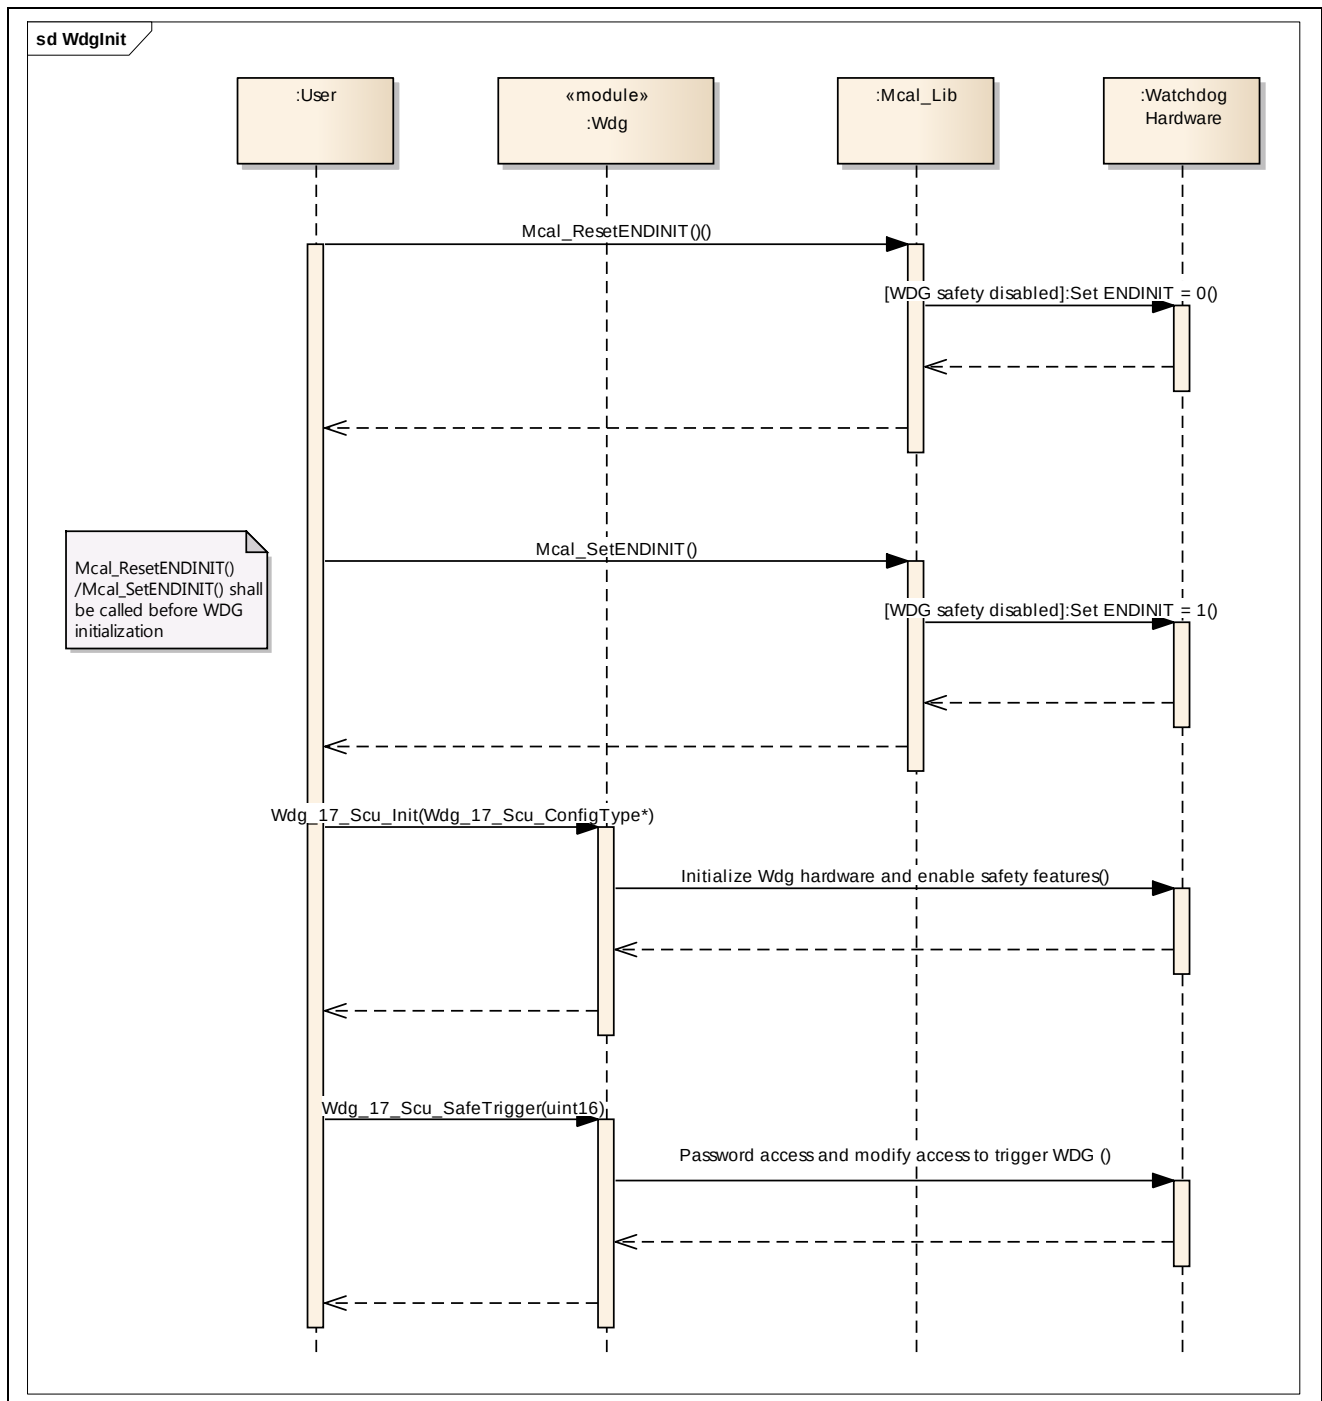

Figure 6 WDG initialization
- Wdg_17_Scu_Init() function enable safety features (password sequencing and execution time checking) if the WDGx is safety enabled in 4.2.11. The initial password and tolerance time is provided in configuration.DEM is reported for wrong WDG safe initialization. Refer Figure 6 for Wdg initialization.